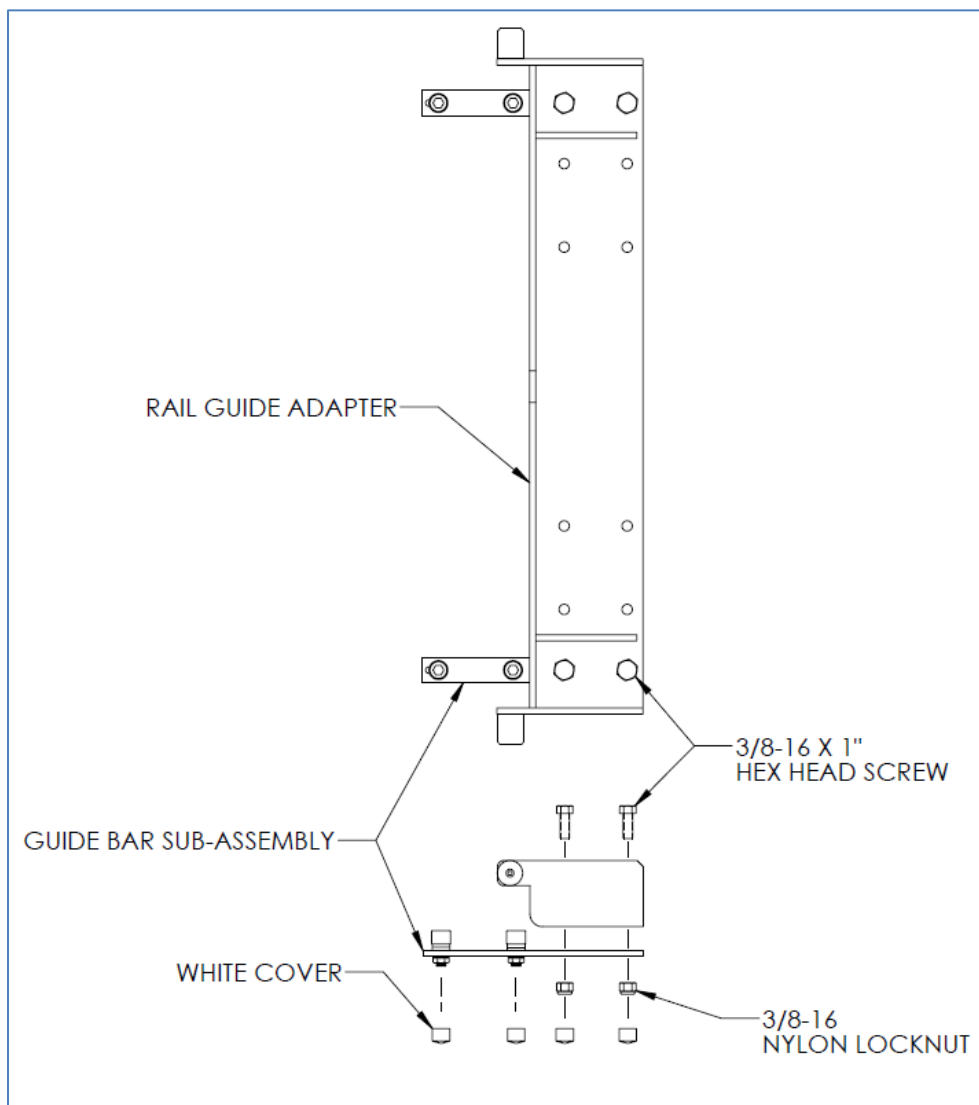

Figure 2
5. Mount the two guide bar sub-assemblies to the guide rail adapter sub-assembly using four screws and locknuts as shown in Figure 2. Press white covers over all eight locknuts fastened onto the two guide bars.